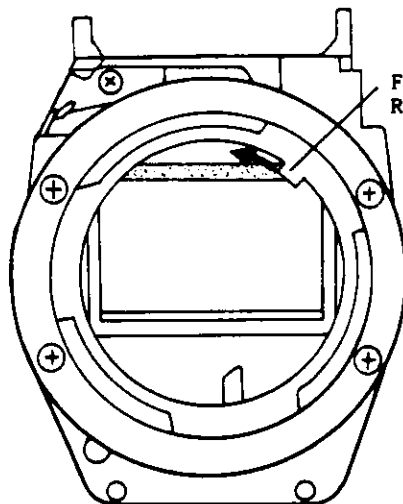

Fig 15
(5) Assembling and Adjustment of AVR Voltage.
- a) Push Pin of F. Stop Connecting Ring in the direction of the arrow until stops. (F1.2 aperture position). (Fig 15)